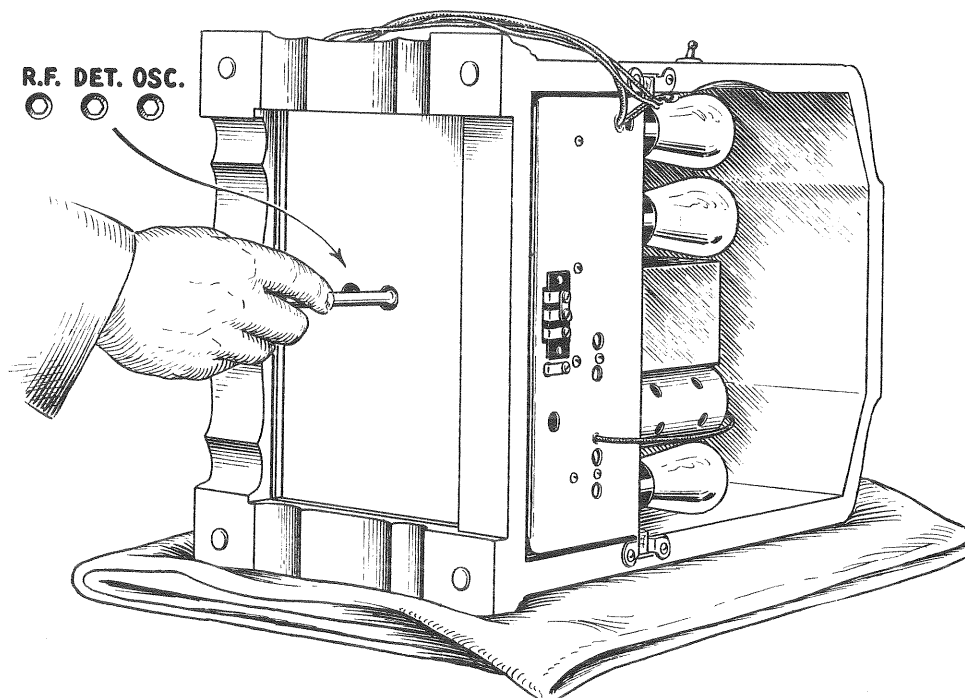

Figure 8—Adjusting 1400 K. C. Line-up Condensers
- (e) With the socket wrench adjust the oscillator, first detector and R. F. line-up condensers until a maximum deflection is obtained in the output meter. (See Figure 8.) A suitable socket wrench for making this adjustment (Stock No. A6001), is listed in Part I.